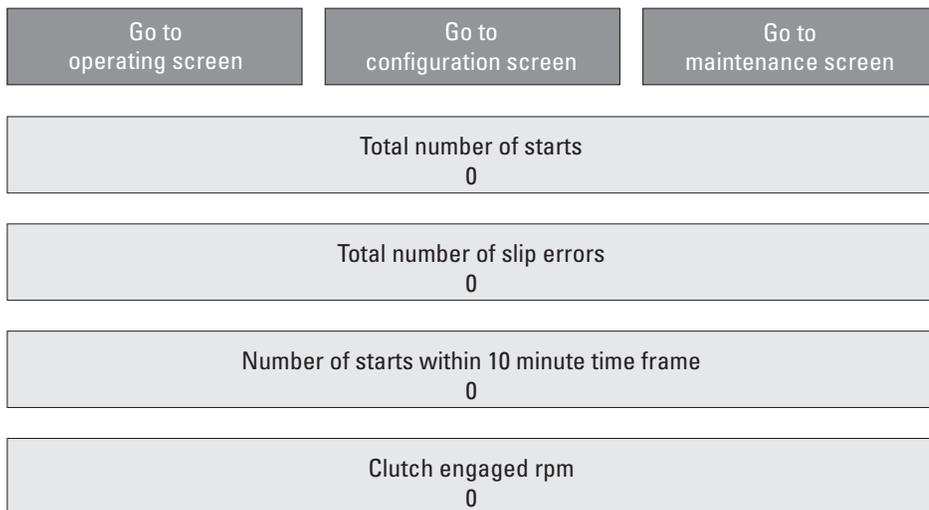

Figure 7
4.2.3 When the ENERGIZE VALVE pushbutton is pressed, the VALVE ENERGIZED indicating light will flash until the prestart delay is over. When the prestart delay is over, the clutch will start to engage and the indicating light will stay on solid. The background of the ENERGIZE VALVE pushbutton on the operating screen of the HMI will flash according to the number of starts that have been performed or attempted in a 10 minute time frame. This is to let the user know if they are about to reach the maximum allowable start limit. The number of starts that have been accumulated in the 10 minute time frame can also be seen on the history screen of the HMI. Refer to Figure 7 for the layout of the history screen of the HMI and the information available. Also refer to section 3.1.1, item (g) for additional description of the cool down timer
5.5.1 Various operating and historical information is available on the history screen of the HMI. Refer to Figure 7 for the layout of the history screen and the information available. The number of starts, and number of slip errors is retained data. This data will be retained through a reboot. The other data on the history screen is not retained.